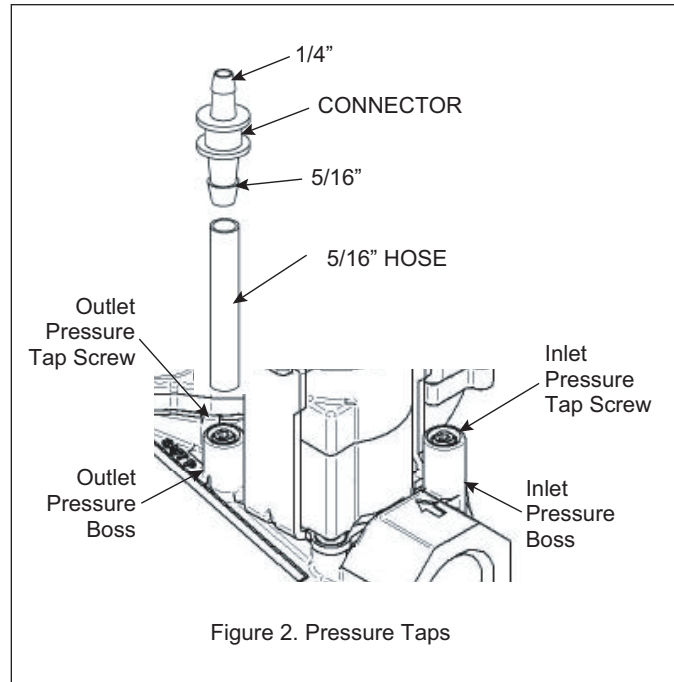

Figure 2. Pressure Taps
3. Insert the 3/32" hex wrench into the Outlet Pressure Tap Screw marked "OUT P" and rotate counter-clockwise one revolution. See Figure 2.
12. Insert the 3/32" hex wrench into the Outlet Pressure Tap Screw marked "OUT P" and rotate clockwise one revolution. See Figure 2.